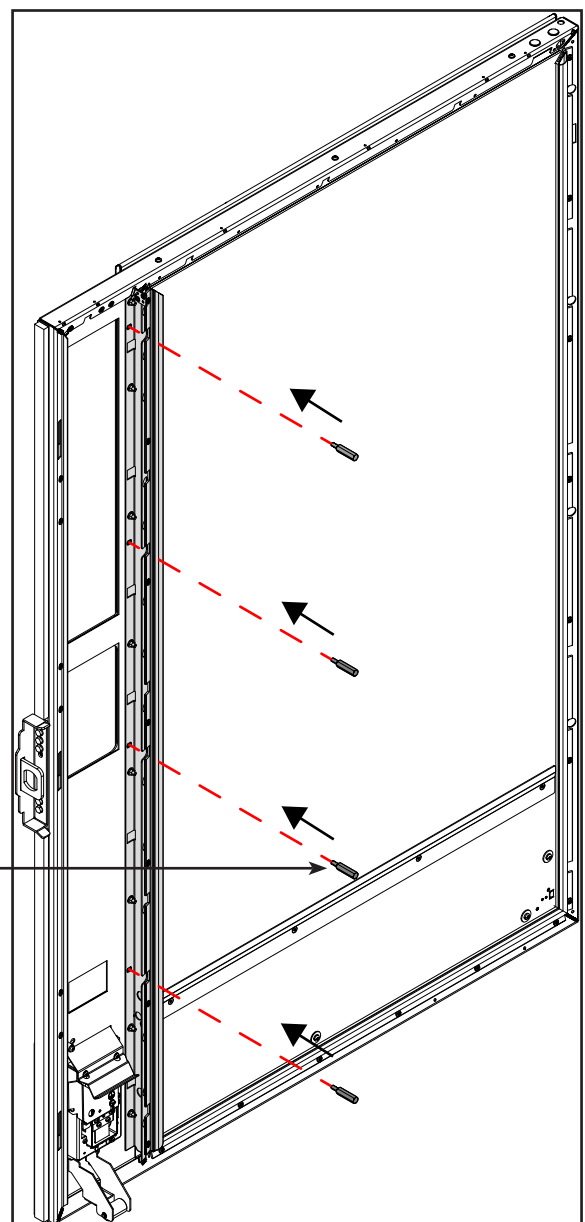

Figure 35
2. Fasten the impact protection in place using 4x hexagon head bolts (size 10) (Fig. 35).